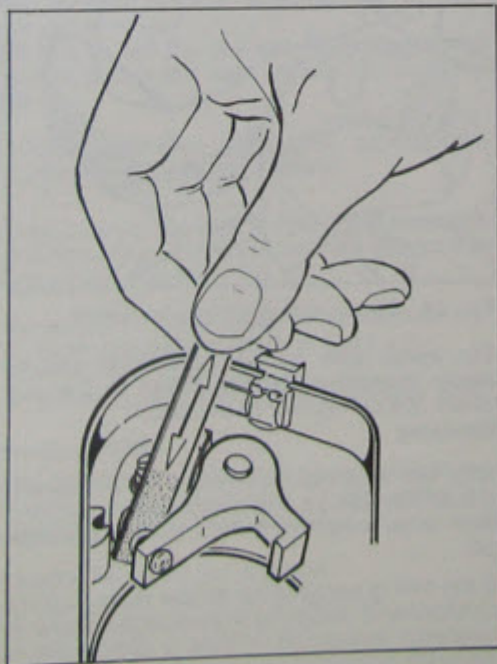

Fig. 17 Cleaning points
- Open points and remove all traces of dust (Fig. 17).